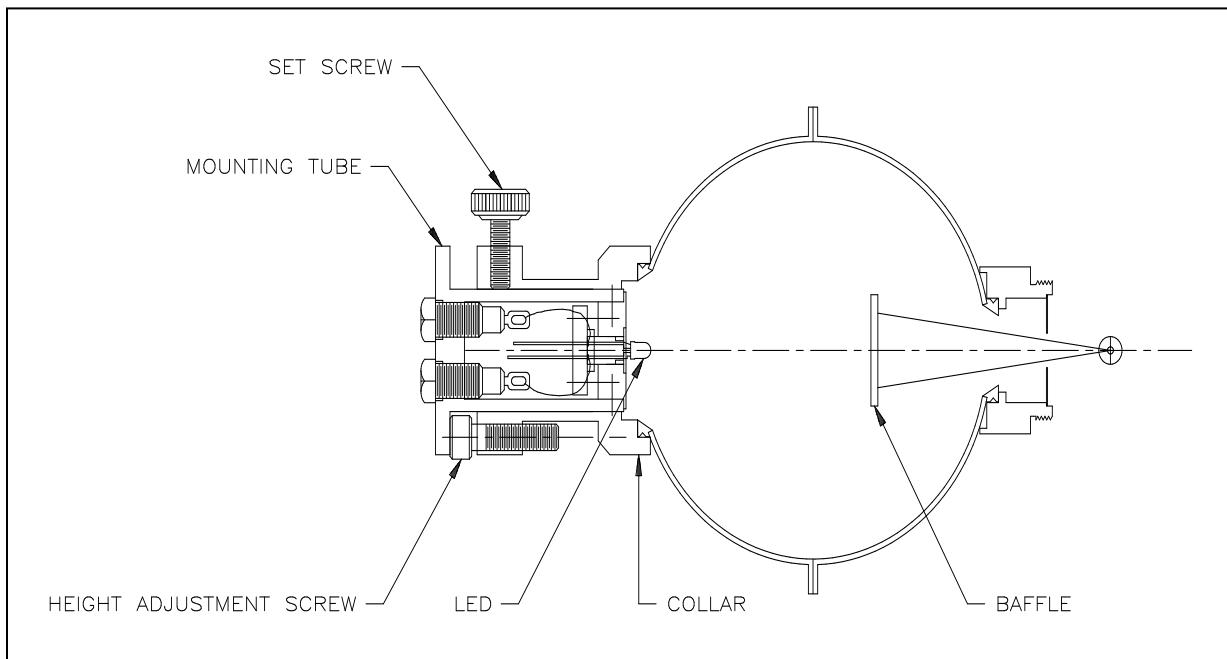

FIGURE 77 – IS-655 / IS-670 INSIDE VIEW
The IS-655 / IS-670 is a 3 inch sphere designed to measure the total luminous flux (lumens) or radiant flux (watts) of LEDs or other small source such as miniature lamps. This accessory consists of a sphere with baffle and LED Mounting Tube (See Figure 77). During operation, the LED is inserted into the interior end of the Mounting Tube, the Adjustment Screw is set so that the tip of the LED protrudes precisely 0.100 inches into the sphere, and the measurement is conducted. The power cables for the LED (plus and minus current) are connected via mini banana jacks located on the anterior end of the mounting tube.
1. Loosen the Set Screw (see Figure 77) by turning it counter-clockwise.
1. Referring to Figure 77, position the tip of the LED so that it is directly adjacent to the Height Adjustment Screw, and resting on the outside surface of the Collar.